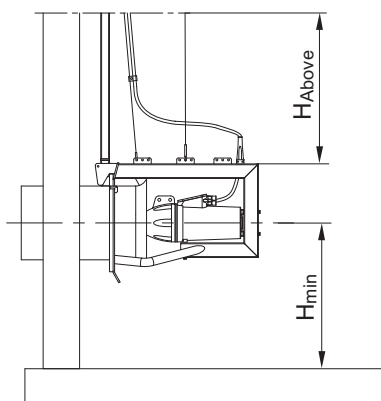

Fig. 1 Distance to liquid surface and tank bottom
- The distance from the center of the pump to the tank bottom (H_{\min}) must be equal to the impeller diameter. See fig. 1.
- For pumps without vortex shield, the distance must at least be equal to 1.5 times the impeller diameter. See fig. 1.